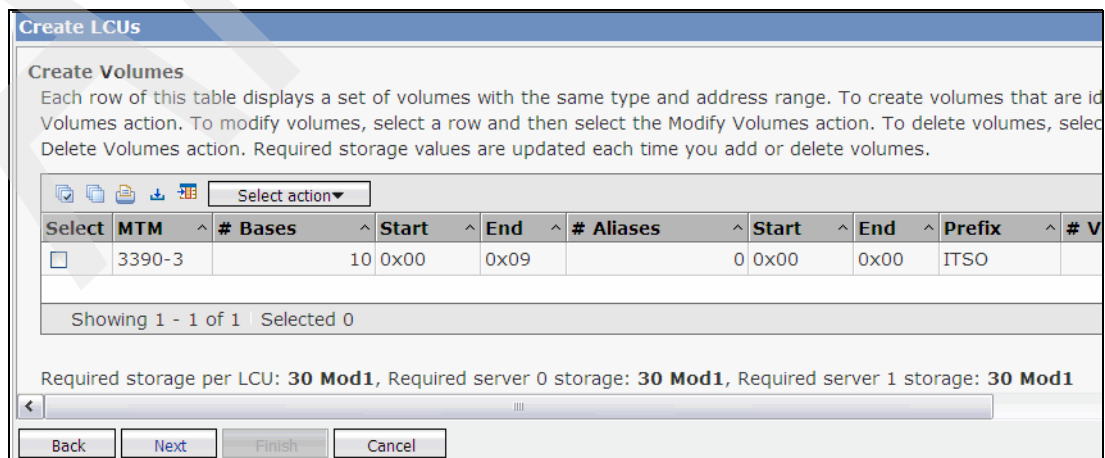

Figure 13-69 Create Volumes window
Click **OK** to proceed. The Create Volumes window shown in Figure 13-69 appears.
- In the Create Volumes window (Figure 13-69 on page 347), you can select the just created volumes in order to modify or delete them. You also can create more volumes if this is necessary at the time. Select **Next** if you do not need to create more volumes at this time.